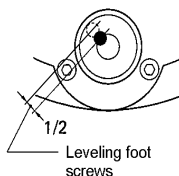

Fig.7.2
- 3) Compensate for one-half of the shift by adjusting the leveling foot screws ⑤. (Fig.7.2)